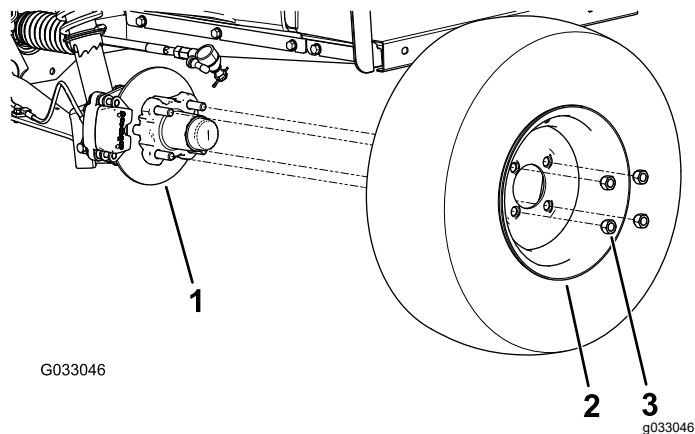

Figure 25
2. Remove the 4 lug nuts that secure the wheel to the hub (Figure 25).
4. Align the holes in the wheel to the studs of the hub and assemble the wheel to the hub with the valve stem outward (Figure 25).
5. Secure the wheel to the hub using the lug nuts (Figure 25).